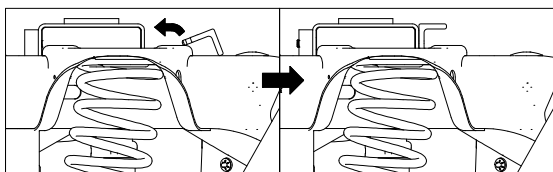
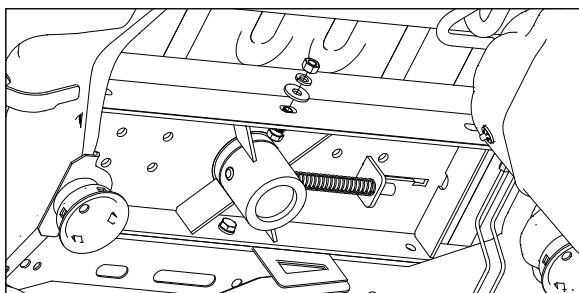

Figure C6: Cut-Away view of passenger side of frame (Bed not shown)
Figure C7: View looking up under truck bed from in front of the axle towards the rear of the truck. (Axle and exhaust not shown)
6. **Attach the front cross member.** Push the front cross member back against the center section. Center the cross member in the truck so that the slots in the front cross member will line up with the holes in the center. Using an adjustable wrench on the longer leg of the angle rotate the front cross member so that the leg of the angle with the holes is vertical, see Figure C6. The vertical cross member leg has a profile machined into it that will allow it to be rotated while it is centered in the truck and located over the coil spring mounts on top of the frame. Make sure no part of the wiring harness gets pinched between the frame and the hitch parts. Attach the center and the cross member with a single 1/2" x 1-1/2" long bolt in the center hole only, as shown in Figure C7. The bolt head must be toward the rear of the truck. Add a flat washer, lock washer, and finish nut to the bolt and hand tighten. Do not fully tighten at this point.